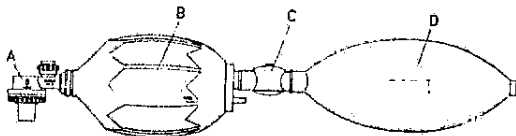

Figure 1. The Manual Resuscitator
The manual resuscitator consists of four major components (figure 1): non-rebreathing valve assembly (A), silicone bag (B), reservoir valve (C) and oxygen reservoir (D). **Parts C and D should be removed if supplemental oxygen is not to be supplied from an external gas source.**